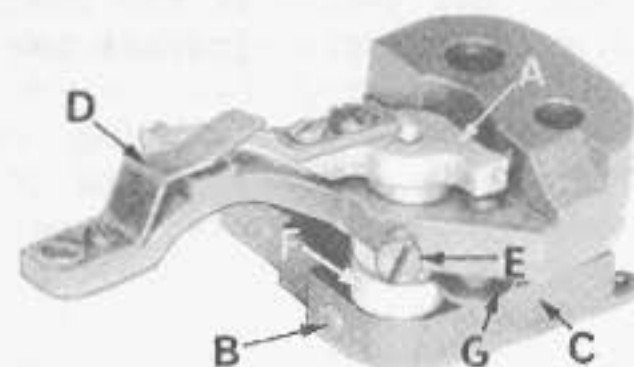

Fig. 28
1. There should be no bind or shake in lower knife pivot carrier (A, Fig. 28). This adjustment can be made by loosening screw (B) on the pivot release lever (C) and taking up the excessive end play or relieving the bind as the case may be.